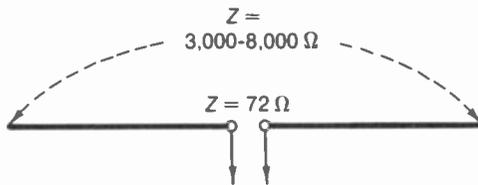

FIGURE 25-3 IMPEDANCE OF HALF-WAVE DIPOLE ANTENNA.
**Antenna impedance.** This impedance  $Z_a$  varies with the values of current at different points along the antenna. For a resonant half-wave dipole,  $Z_a$  is approximately 72  $\Omega$  at the center, as shown in Fig. 25-3. At the ends,  $Z_a$  is several thousand ohms. Intermediate points have intermediate values. Furthermore, the value of  $Z_a$  at the center is higher than 72  $\Omega$  for frequencies off resonance. These values are ac impedances